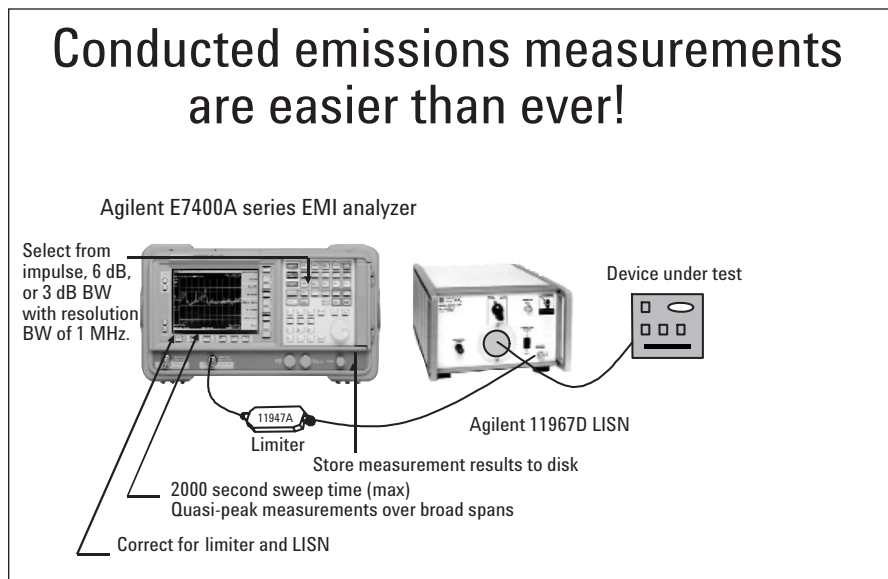

Figure 4. Conducted measurements interconnection
1. Interconnect the EMC analyzer, limiter, LISN, and EUT as shown in Figure 4 (printer is optional).